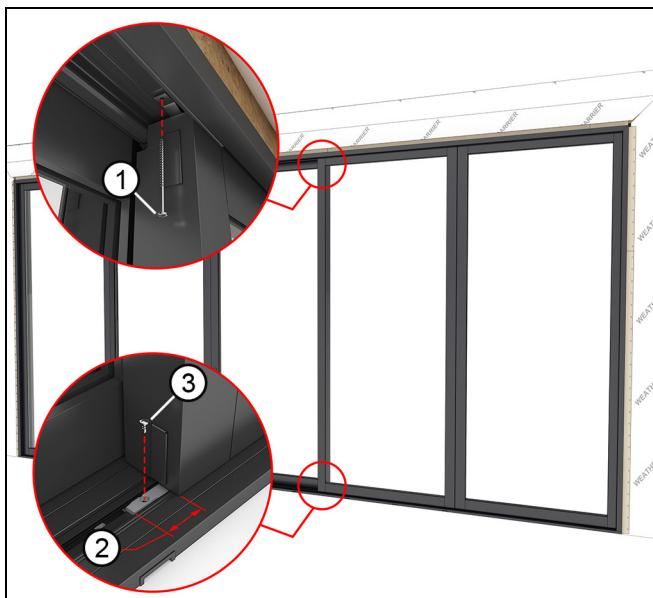

Figure 144
15. Bend the top stationary bracket of the (C) stationary panels up against the head jamb, pre-drill a $3/16$ " hole through the head jamb using the bracket as a template. Fasten through the bracket into the head jamb framing with a #10 x 3" installation screw. Shim as needed taking care not to bow the head jamb.
Fasten the lower stationary brackets on the (C) panels with a #8 x 1/2" screw. See Figure 144.